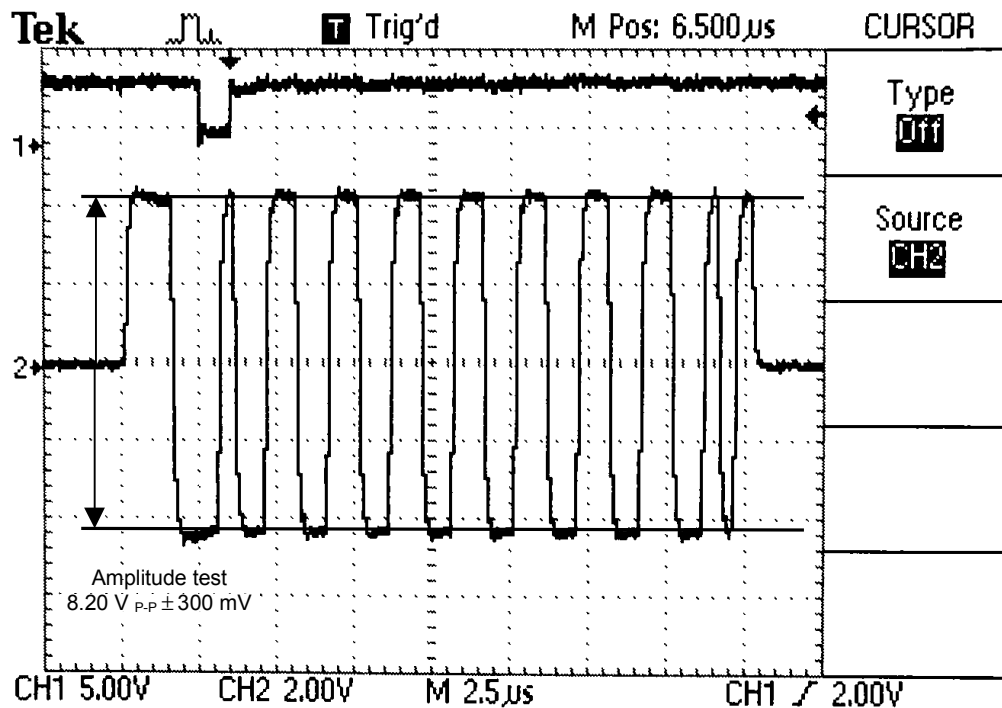

Figure 455-9: Amplitude Test, Volts Peak-to-Peak
2. Measure the peak-to-peak amplitude. Verify that the reading is $8.20 \text{ V}_{p-p} \pm 300 \text{ mV}$. Refer to Figure 455-9.
3. Measure the peak-to-peak amplitude of the 1553 message on channel 2. Verify that the reading is $8.20 \text{ V}_{\text{p-p}} \pm 300 \text{ mV}$. Refer to Figure 455-9.